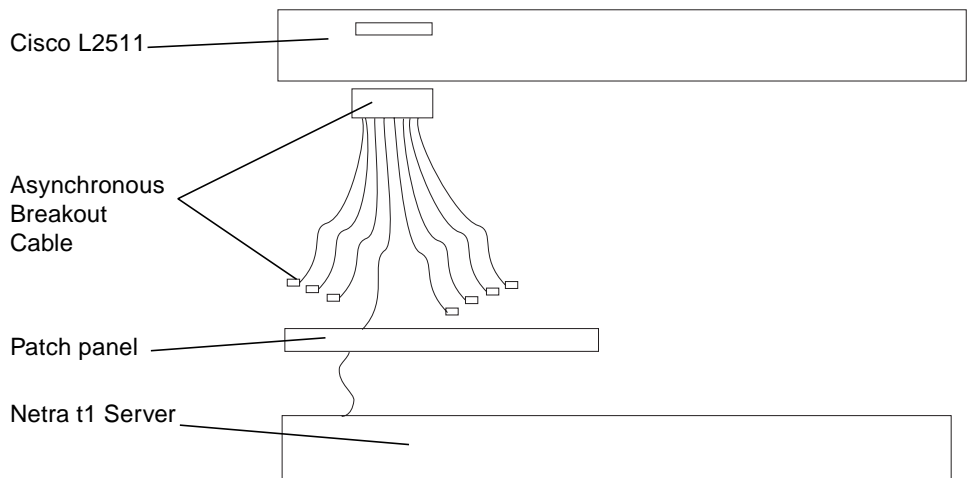

FIGURE 6-5 Patch Panel Connection Between a Cisco L2511 and a Netra t1 System
- connect the Breakout Cable to a patch panel and use the straight-through patch cable (supplied by Sun) to connect the patch panel to the Netra t1 (see FIGURE 6-5).